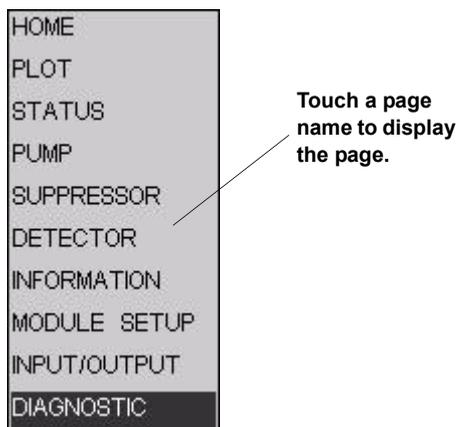

Figure 2-4. ICS-1500 Touch Screen Menu of Pages
- Touching the page name (for example, **HOME**) in the bottom right corner, opens a menu of pages (see Figure 2-4).